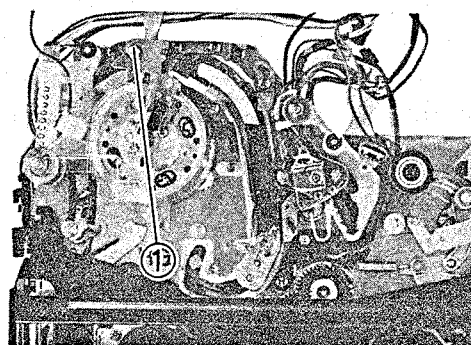

Fig. 2-53 Video Head (Upper Cylinder) Removal
Video Head (Upper Cylinder) Removal (Figs. 2-53, 2-54)
1. Remove one (1) screw holding the cylinder motor brush. (See Fig. 2-53)